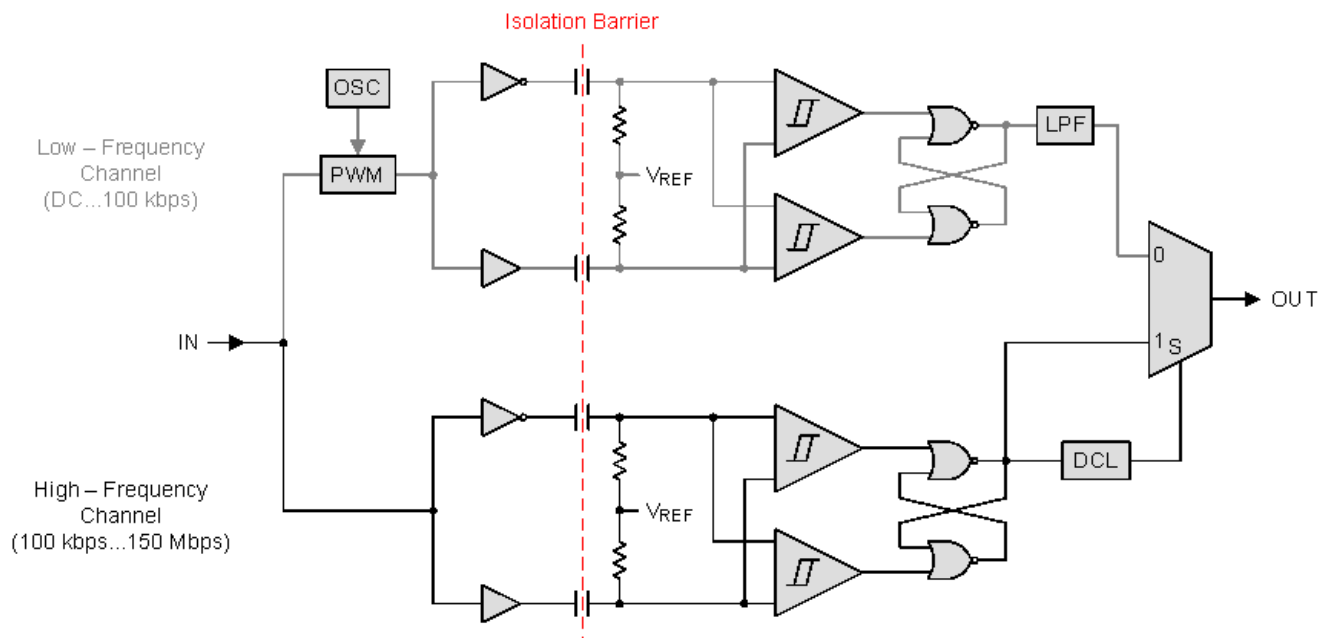

Figure 13. Conceptual Block Diagram of a Digital Capacitive Isolator
The isolator in Figure 13 is based on a capacitive isolation barrier technique. The I/O channel of the device consists of two internal data channels, a high-frequency channel (HF) with a bandwidth from 100 kbps up to 150 Mbps, and a low-frequency channel (LF) covering the range from 100 kbps down to DC. In principle, a single-ended input signal entering the HF-channel is split into a differential signal via the inverter gate at the input. The following capacitor-resistor networks differentiate the signal into transients, which then are converted into differential pulses by two comparators. The comparator outputs drive a NOR-gate flip-flop whose output feeds an output multiplexer. A decision logic (DCL) at the driving output of the flip-flop measures the durations between signal transients. If the duration between two consecutive transients exceeds a certain time limit, (as in the case of a low-frequency signal), the DCL forces the output-multiplexer to switch from the high- to the low-frequency channel.